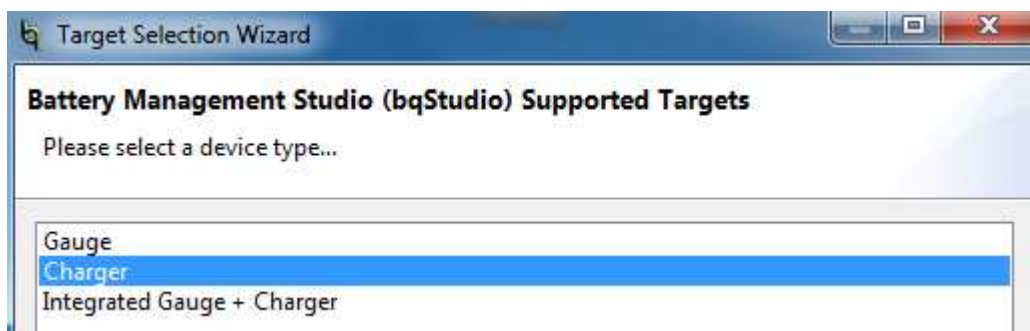

Figure 3. Selection Window of the bqStudio Evaluation Software
8. Turn on the computer. Launch *Battery Management Studio* (bqStudio). Select *Charger* and either *Charger_1_00-bq25601.bqz* or the *Charger_1_00-bq25601D.bqz* evaluation software. The main window of the software is shown in Figure 3.